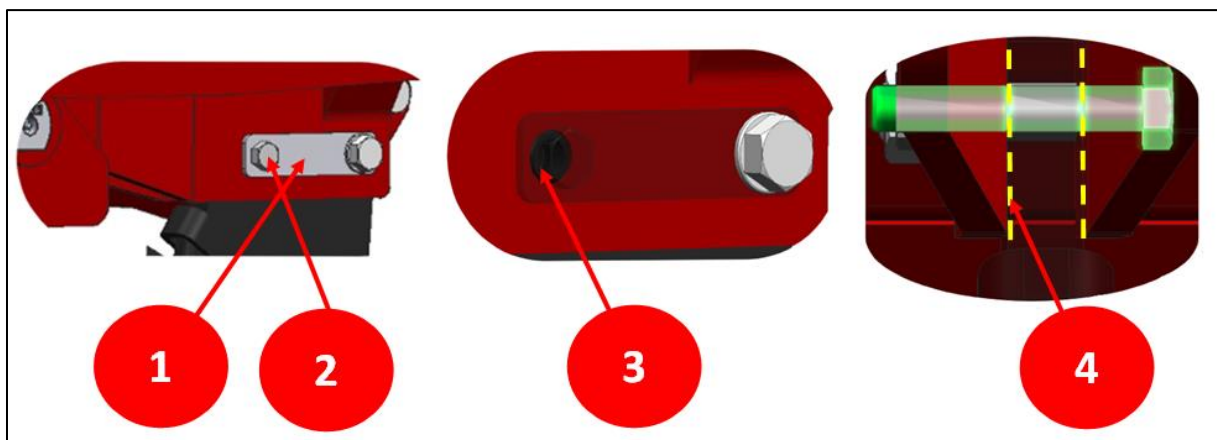

Figure 11 Shear bolts.
It is important to always use the mounting spacers (1). This ensures that the shear bolt (2) and runout bush (3) remain in the correct position. Because of the spacer the breaking lines of the shear bolt (4) have gone exactly along the tine and cannot damage the tine or holder. See Figure 11.